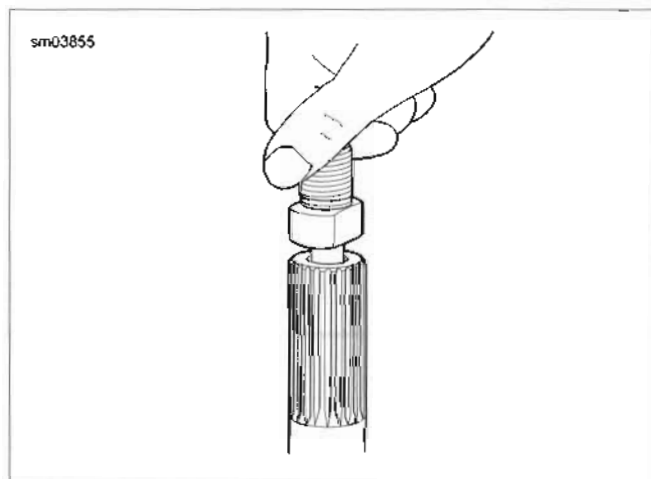

Figure 3-141. Thread Pilot Adapter into Sprocket Shaft
- a. See Figure 3-141. Thread pilot adapter into sprocket shaft.